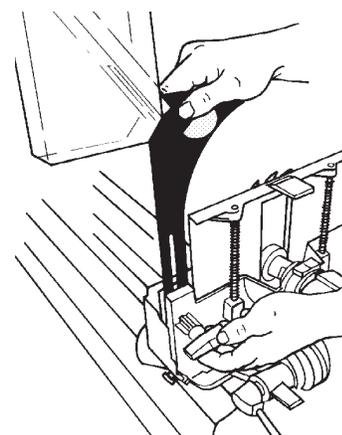

Figure B-108
91. Loosen the guard lock knob (210) and insert the upper saw guard's riving knife (199) between the guard (213) and the lock plate (208), as demonstrated in Figure B-108.